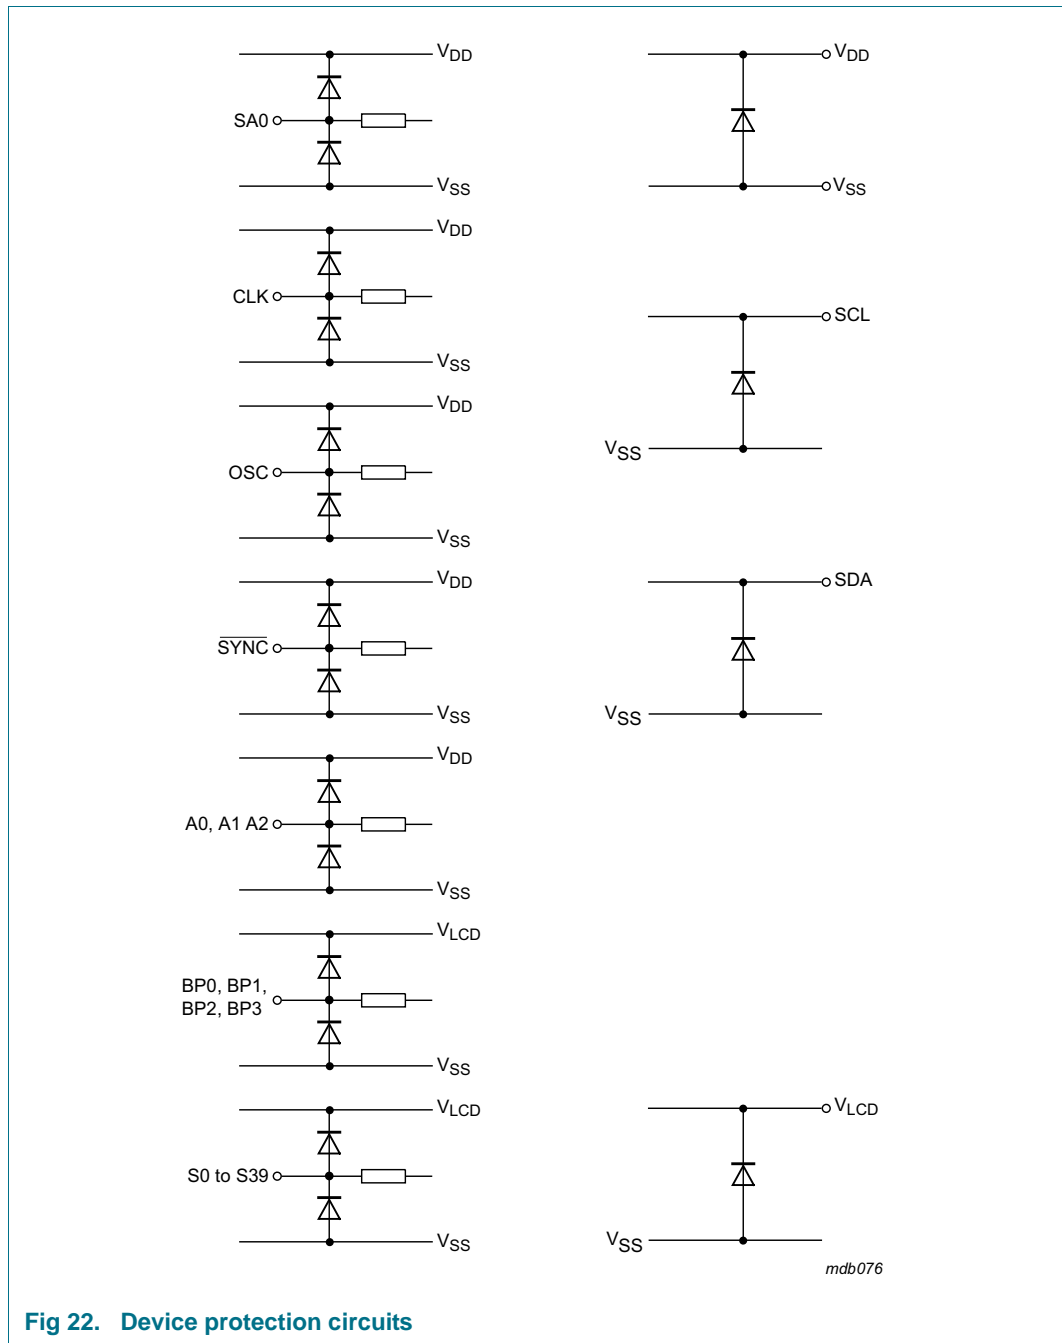

Fig 22. Device protection circuits
- [4] When tested, I²C pins SCL and SDA have no diode to V_{DD} and may be driven to the V_I limiting values given in Table 17 (see Figure 22 as well).